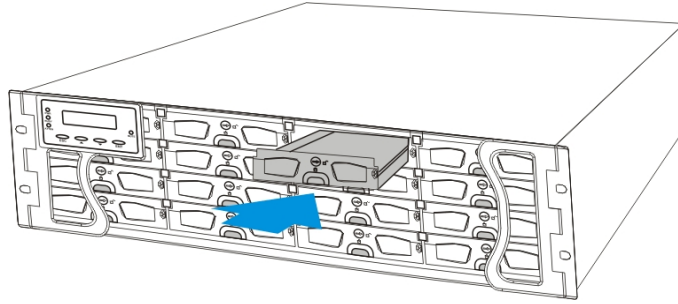

Figure 2-8: Installing a Drive Tray
- Step 3. *Align the drive tray with the slot* in which you wish to insert it making sure that it is properly aligned within the drive bay. Gently slide it in until the drive tray reach the end of drive bay. This should be done smoothly and gently. (See *Figure 2-8*)